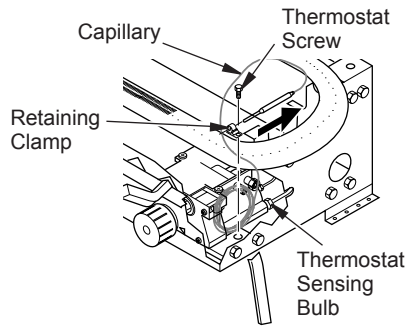

Figure 40 - Removing Thermostat Sensing Bulb
2. With 1/4" hex driver or socket, loosen the thermostat screw. Carefully slide the thermostat sensing bulb out of the retaining clamp (see Figure 40).